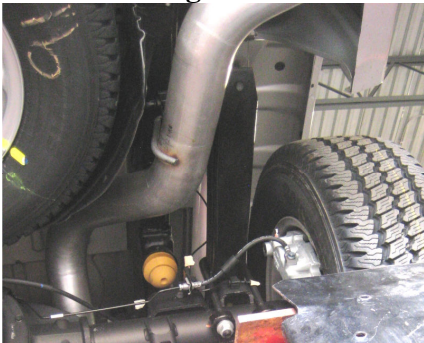

Figure 7
3. Install the Tail Pipe hanger into the factory rubber insulator. Refer to **Figures 7**.